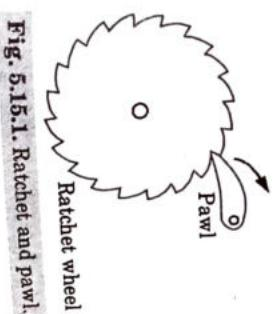

Fig. 5.15.1. Ratchet and pawl.
2. Fig. 5.15.1 shows a ratchet and pawl.